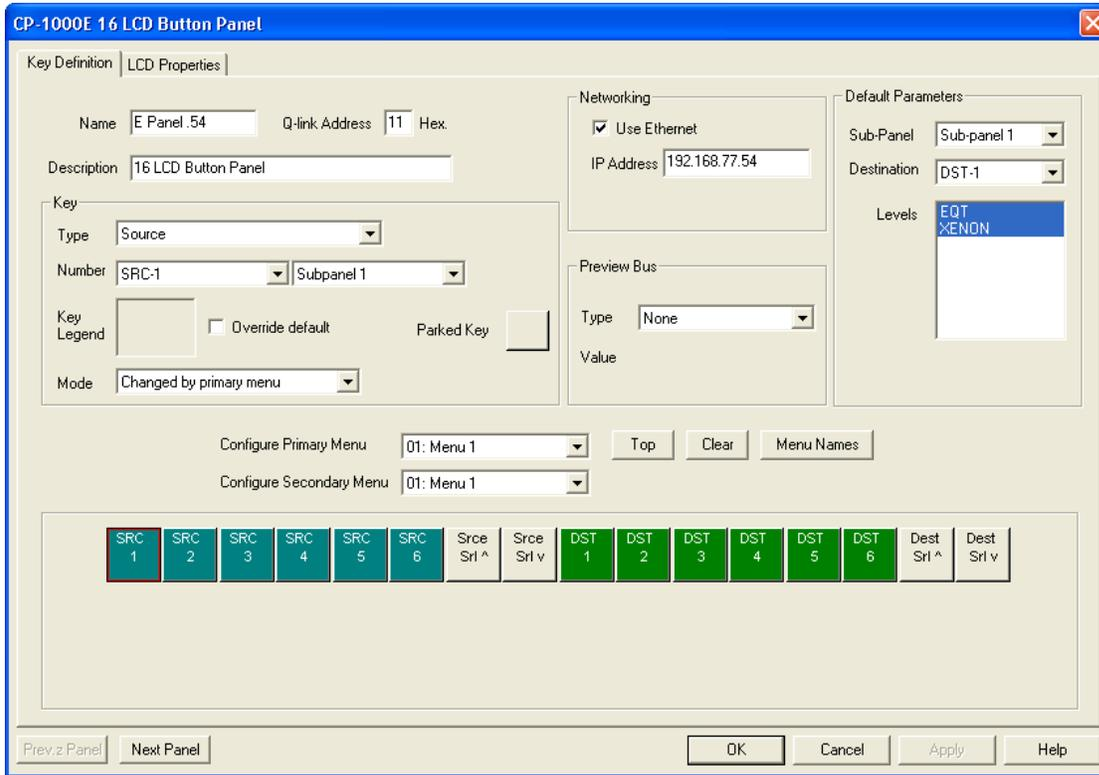

Figure 6-4: WinSetup Panel Configuration
- (4) **Destinations:** Enter the destination dialog and set up the destination names in the same way as used for the source names.
- (5) **Panels:** Enter the panel's dialog and use the new button. This will show all Evertz panels listed by part number. Select the part number that matches the part number on the panel's serial number label. Ignore the A/E designation as the connection method for the panel that will be defined in the panel configuration dialog. Once a part number is selected, a new dialog box will appear displaying a graphic of the panel. Figure 6-4 provides an example of the button display for a CP-1000E control panel.